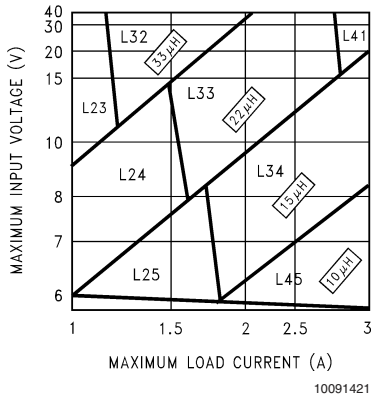
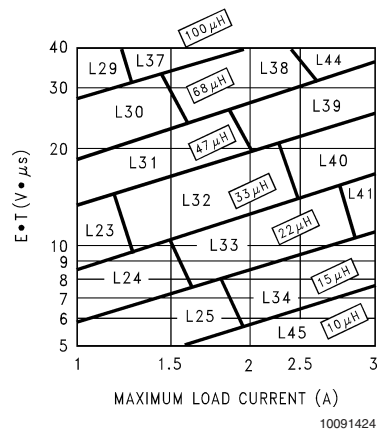

FIGURE 3. LM2676-3.3
FIGURE 6. LM2676-ADJ
Step 3: Determine the inductor required by using one of the four nomographs, *Figure 3* through *Figure 6*. Table 1 provides a specific manufacturer and part number for the inductor.
Step 5: Determine an input capacitor from Table 4 for fixed output voltage applications. Use Table 2 to find the specific capacitor type. For adjustable output circuits select a capacitor from Table 2 with a sufficient working voltage (WV) rating greater than $V_{in\ max}$, and an rms current rating greater than one-half the maximum load current (2 or more capacitors in parallel may be required).
Step 3: Use the nomograph for the 3.3V device, *Figure 3*. The intersection of the 16V horizontal line ($V_{in\ max}$) and the 2.5A vertical line ($I_{load\ max}$) indicates that L33, a $22\mu\text{H}$ inductor, is required.
Step 3: To use the nomograph for the adjustable device, Figure 6, requires a calculation of the inductor Volt•microsecond constant (E•T expressed in V•μS) from the following formula:
Using Figure 6, the intersection of 27V•μS horizontally and the 2A vertical line (I_{load} max) indicates that L38, a 68μH inductor, should be used.
Important Note: When using the adjustable device in low voltage applications (less than 3V output), if the nomograph, Figure 6, selects an inductance of 22μH or less, Table 6 does not provide an output capacitor solution. With these conditions the number of output capacitors required for stable operation becomes impractical. It is recommended to use either a 33μH or 47μH inductor and the output capacitors from Table 6.